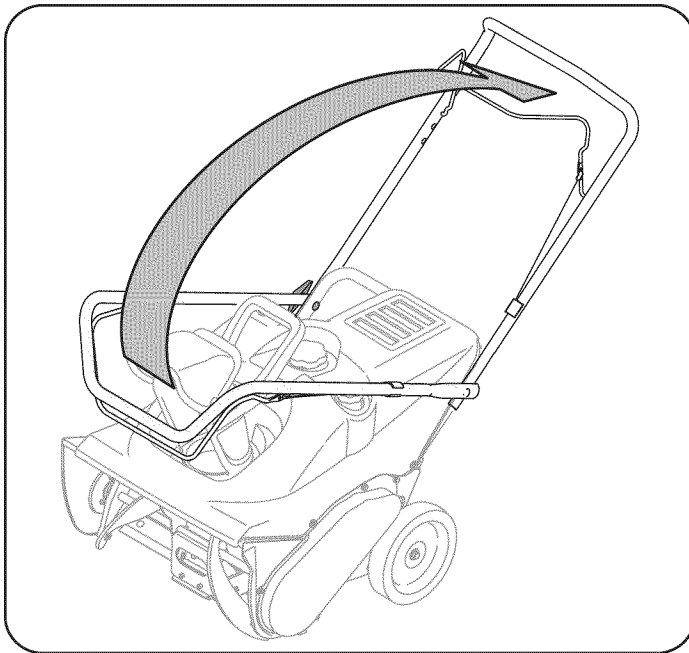

Figure 1
1. Pivot the upper handle into the operating position making sure not to pinch the cable in the process, as illustrated in Figure 1, until it clicks into place.